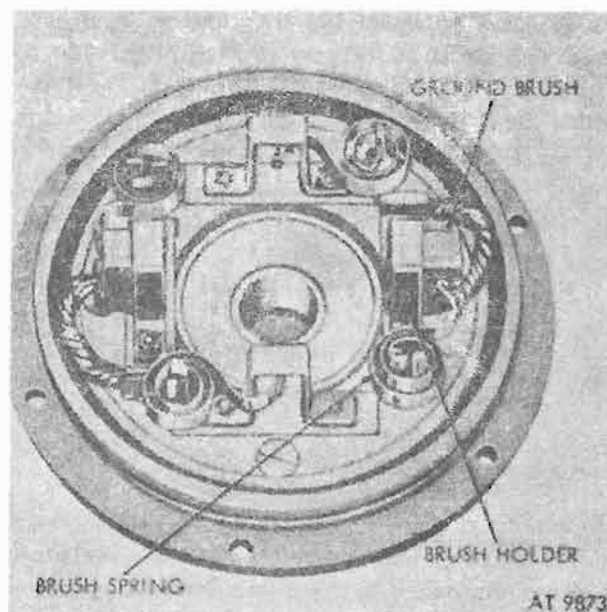

Figure 7-22. Side-loading ground brushes.
b. Install side-loading ground brushes with brush springs (fig. 7-22).